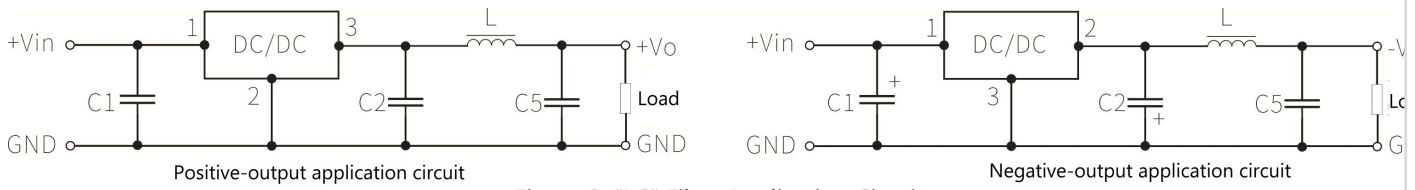

Figure 3: "LC" Filter Application Circuit
- If further reduction of output ripple is required, an external "LC" filter network can be added to the output terminals. The recommended value for L is 10 μ H - 47 μ H, and the recommended value for C5 is 22 μ F, as shown in Figure 3.